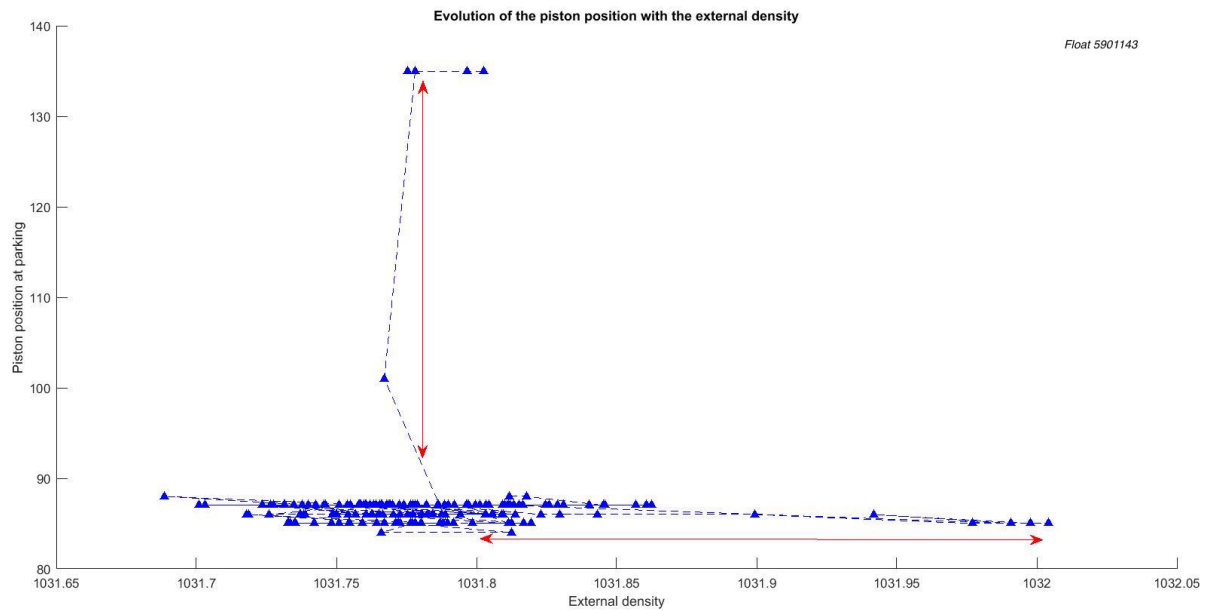

Figure 8: Evolution of the piston position with the external density for a failed float.
- **Figure 8:** there are several scatter that are far away from the other points. But, the key aspect remains to understand if the piston position is correlated with the density: for that, the plot needs to be reading horizontally or vertically. Indeed, in case of change of density (by grounding as an example), it is natural that the piston position evolves.